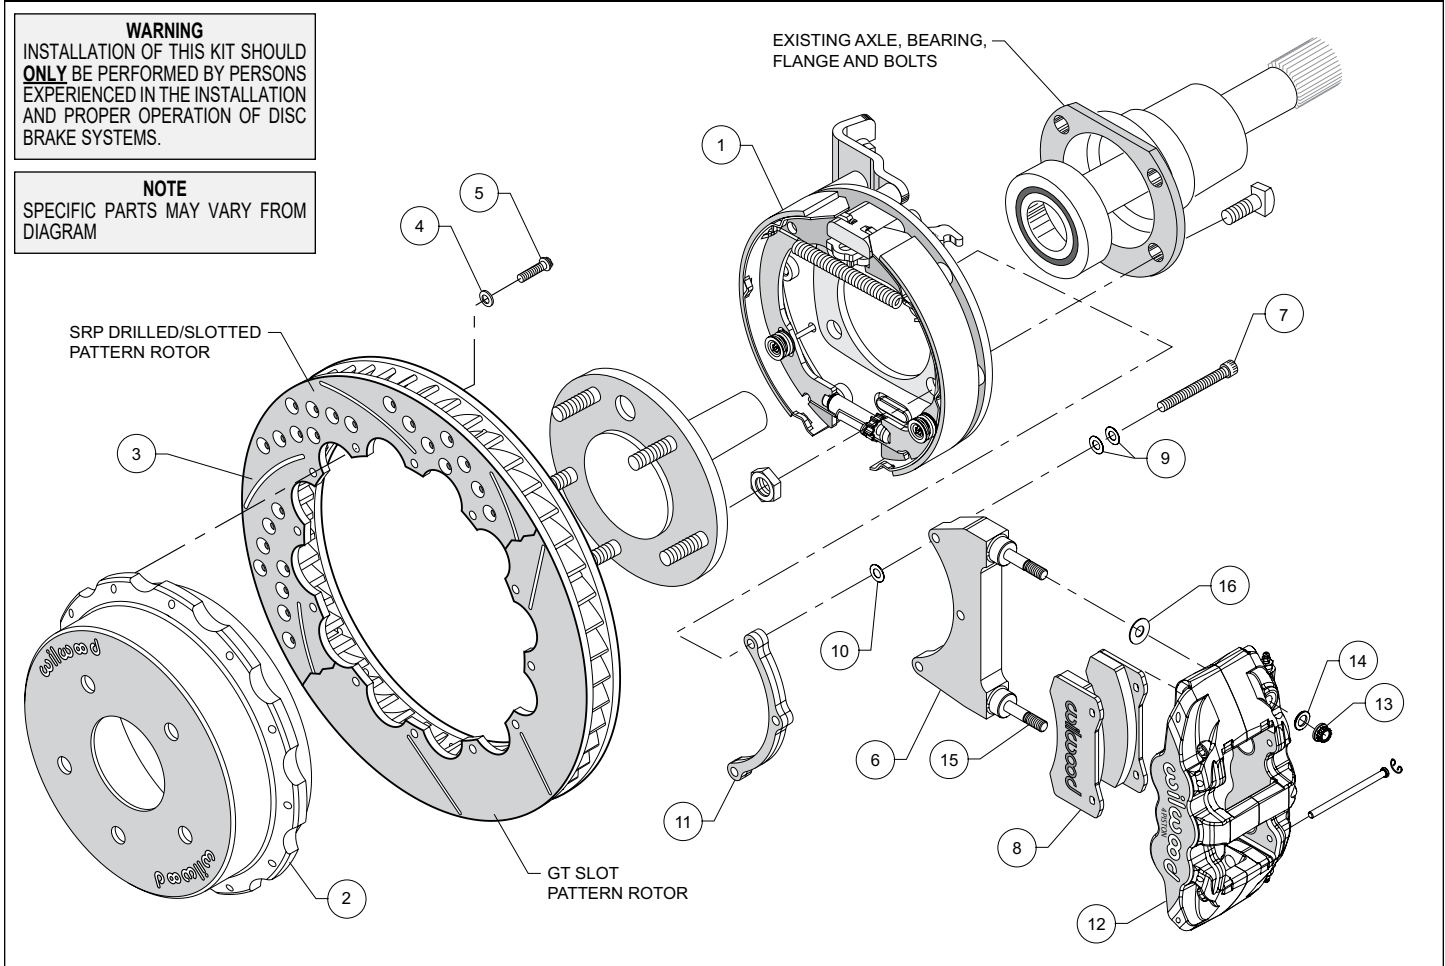
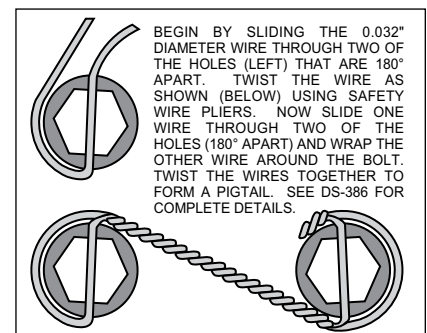

Figure 1. Typical Installation Configuration
Figure 4. Safety Wire Diagram
NOTE: Numbers in parenthesis refer to the parts list and Figure 1 on the preceding pages.
- Slide the bracket kit assembly (1) onto the housing flange and then insert the axle assembly through the center hole of the bracket kit assembly (1). Secure using the stock Original Equipment Manufacturer (OEM) bolts and nuts. Stock OEM hex nuts that retain the bracket kit assembly (1) should be on the wheel side of the bracket. Apply red *Loctite*® 271 to the stock OEM bolt threads and torque to OEM specifications. Make sure the bracket kit assembly (1) brake pads are FACING OUTWARD TOWARDS THE WHEEL.
- With the larger I.D. side of the rotor (3) facing away from the hat (2), bolt rotor (3) to hat (2) through the backside of the rotor using washers (4) and bolts (5). Using an alternating sequence, apply red *Loctite*® 271 to the threads and torque bolts to 155 in-lb. For an added measure of security, the bolts may be safety wired using standard 0.032 inch diameter stainless steel safety wire as shown in Figure 4. Please refer to Wilwood's data sheet DS-386 (available at www.wilwood.com/Pdf/DataSheets/ds386.pdf) for complete safety wire installation instructions.
- Align the correct hole pattern in the hat (2) with the stud pattern on the axle flange. **NOTE:** Some OEM and aftermarket axles come with stud sizes larger than 0.50" diameter. Verify stud size and have a qualified machine shop drill the hats to the correct size, if necessary. Slide the hat/rotor assembly (2 and 3) over the wheel studs covering the bracket kit assembly (1) and against the axle flange face. Check to be sure the hat seats squarely against the hub. Install three lug nuts (finger tighten) to keep the rotor/hat assembly in place while continuing with the installation.
- **NOTE:** Please reference the caution statement at the beginning of the assembly instructions. The caliper mounting bracket assembly (6) should be installed first with clean, dry threads on the mounting bolts (7). Install the bracket from the rear side of the bracket kit assembly (1) by sliding bolt (7) through two flat washers (9), bracket (6), shim washer (10) and finally through the spacer (11), see Figure 1.
- Lubricate caliper mounting studs and nuts with lightweight oil. Install one washer (16) over each pre-installed stud (15) on the radial mount bracket (6). Slide the caliper (12) in place over the studs and rotor, then install the washer (14) and lock nut (13) to hold the caliper in place. The caliper bleed screws should be pointing up. Snug the lock nuts (13) and check that the rotor (3) is centered in the caliper (12). Add or subtract .015" shims (10) as necessary between the caliper mounting bracket (6) and the spacer (11) to center the caliper (12).
- Remove the two pad retaining pins from the caliper (12) by carefully popping out the pin retaining clips and sliding out the pins. Insert the brake pads (8) into the caliper from the bottom, Figure 1. With the friction material facing the rotor, secure the brake pads in place with the pad retaining pins and clips. Reinstall the caliper onto the caliper mounting bracket and temporarily tighten the lock nuts. Check that the top of the brake pad is flush with the outside diameter of the rotor. If not, adjust by adding or subtracting shims (16) between the caliper and the bracket.
- Adjust the parking brake shoes outward (using a drum shoe adjustment tool available at your local auto parts store) while spinning the hat (2) until a slight drag is felt against the hat/drum. Remove the lug nuts that were holding the hat/rotor in place. Install the wheel and lug nuts. Check to see that the wheel rotates freely without interference.
- Once all clearances have been checked, remove the wheel, caliper, hat/rotor from the bracket kit assembly (1). Secure the caliper mounting bracket (6) to the bracket kit assembly (1) using red *Loctite*[®] 271. Torque bolts (7) to 180 **in-lb**. Reinstall the hat/rotor assembly and again use lug nuts to hold it in place. Reinstall the caliper, torque the caliper nuts (13) to 47 ft-lb.
- NOTE:** Clevis and cable kits which attach to the parking brake assembly are not included in the Wilwood parking brake kit. Wilwood offers a generic style parking brake cable kit, P/N 330-9371 for this application which can be ordered separately from your local Wilwood dealer or by calling Wilwood customer service at (805) 388-1188.